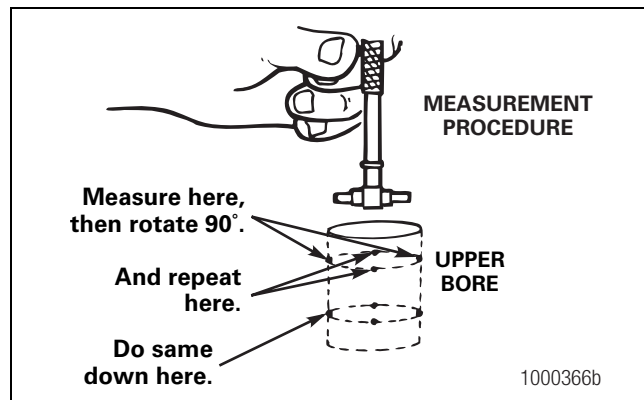

Figure 5.3
3. Measure the bore in four positions and at two locations. The two locations must be 90 degrees opposite each other. Figure 5.3.
6. Measure the inner diameter of the new bushing after installation and reaming in four positions and at two locations. The two locations must be 90 degrees opposite each other. Figure 5.3.
7. Measure the inner bore diameter of the axle beam. Rounding at the top and bottom of the beam is acceptable. Measure the axle beam bore at four positions and at two locations. Figure 5.3. Refer to the guidelines below.